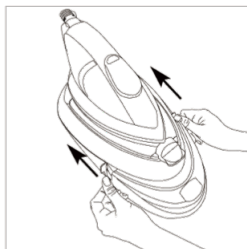

FIGURE 4
4. Put the water tank back and make sure that it is firmly positioned in place (Figure 4).